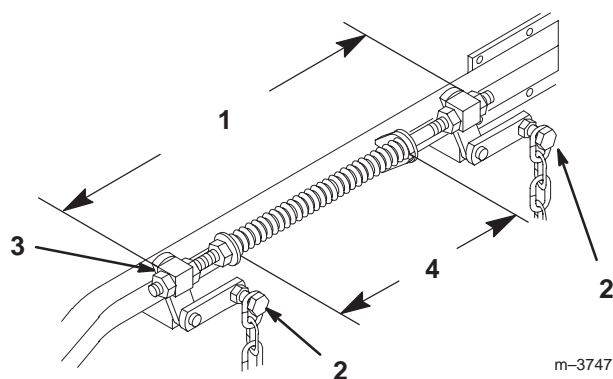

Figure 65
2. Check tire pressure of all four (4) tires. If needed, adjust to 13 psi (90 kPa)
4. Raise the deck to the transport position and take all force off of the two large deck lift springs by loosening nut in front of each spring (Fig. 65).
6. Loosen the four top chain bolts in slots. Check the length of the rod/swivel assemblies. Distance from outside of rear swivel to outside of front swivel should be 19–17/32 inch (496 mm) (Fig. 65). Make sure that all four swivels move freely in holes.
2. Springs are compressed so the distance between the two large washers should be 10–1/4 inch (260 mm) (Fig. 65).
3. Adjust by turning nut in front of each spring (Fig. 65). Clockwise will shorten spring, counter-clockwise will lengthen spring.